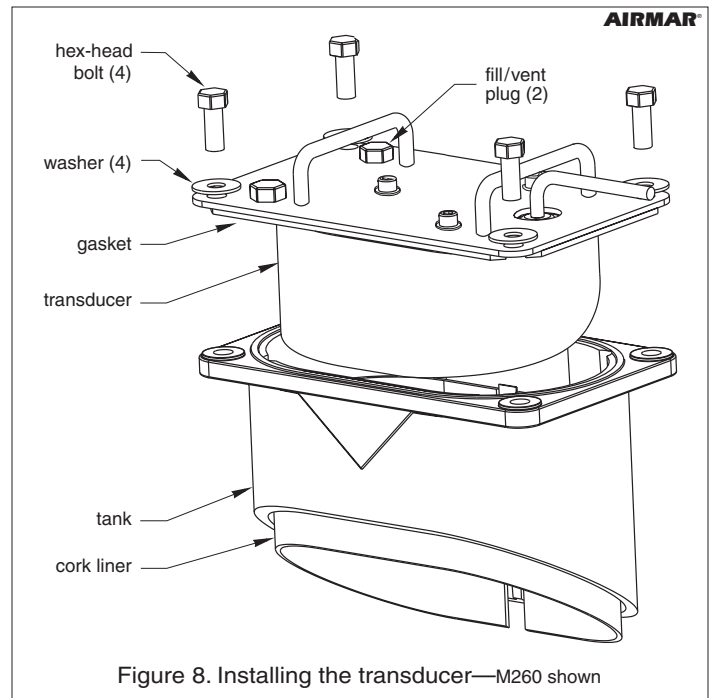

Figure 8. Installing the transducer—M260 shown
4. Grasp the transducer by the handles and lower it into the tank (see Figure 8). There is no fore or aft to the transducer; it fits either way.